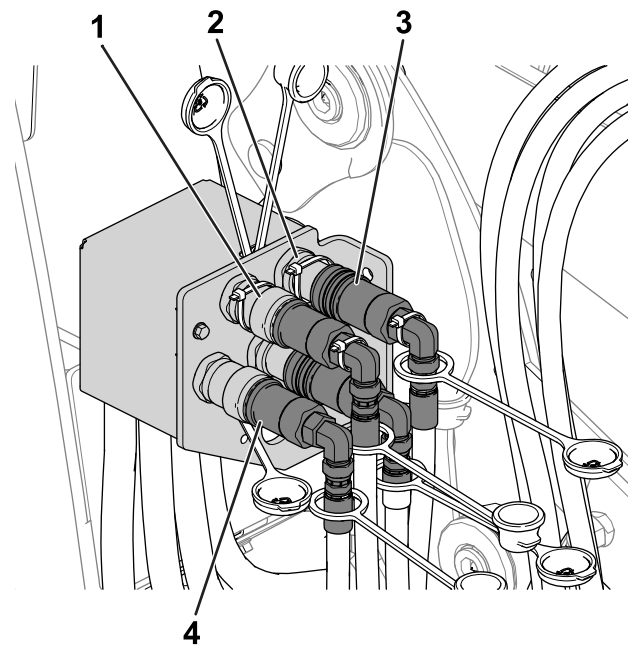

Figure 54
5. Perform the following steps to connect the hydraulic couplers (Figure 54):